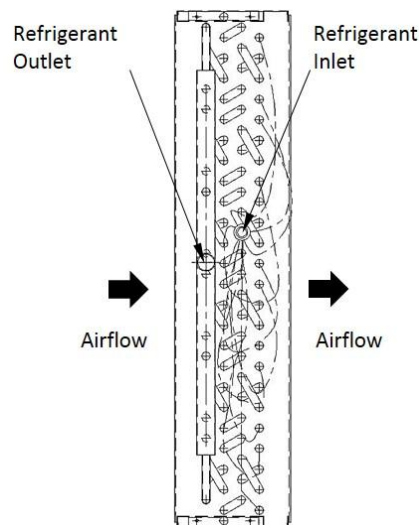

Fig.5
- The expansion valve and the liquid line should be connected to refrigerant inlet of the coil which is on the same side where the air comes out of the coil (Fig.5). This will give counterflow and the greatest heat transfer.